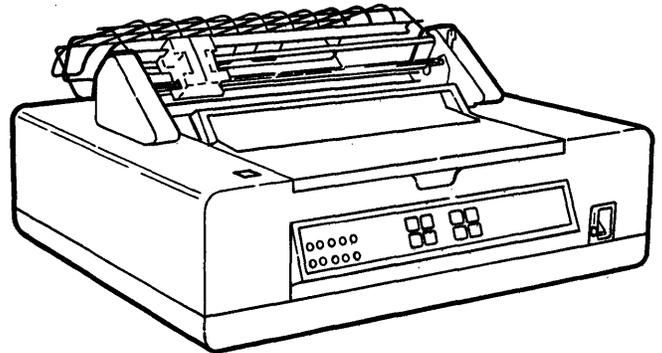

Figure 1-4. Printwheel Printer (With Optional Tractor Feed)
- Two bi-directional printwheel printers (Figure 1-4) also provide hard copy output for the Displaywriter work station. These cable connected printers can be shared by up to three work stations. The printwheel printers have rated burst speeds of up to 40 CPS and 60 CPS.
- The Tractor-feed attachment feeds continuous forms into the printer (Figure 1-4).